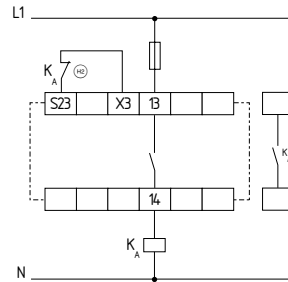

Fig. 9
**Single-channel control with feedback circuit (Fig. 9)**